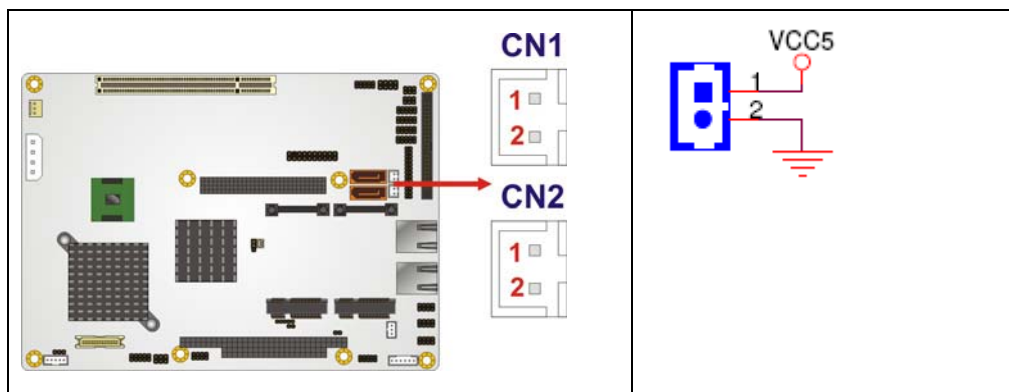

Figure 4-19: SATA Power Connector Locations
- CN Location:** See Figure 4-19